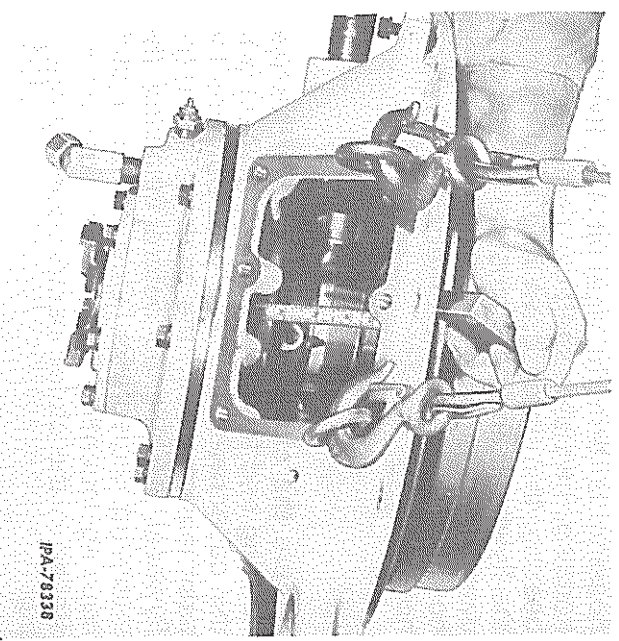

FIG. 29 – Checking the Clutch Brake Disc Clearance
26. Attach a hoist to the two upper inspection cover mounting holes in the clutch housing and lift the assembly from the bench (Fig. 29).
27. Engage the clutch. Working through the inspection cover opening, thread the clutch brake disc on the bearing carrier until a 31.8mm (1-1/4 inch) clearance is obtained between the finished surface of the clutch brake disc and externally tangd clutch brake plate (Fig. 29). Thread the lockscREW
8. Engage the clutch. Check the clearance between the finished surface of the clutch brake disc and the externally tapered clutch brake plate (Fig. 29). This clearance should be approximately 31.8mm (1-1/4 in.). Adjustment can be made, if necessary, by loosening the jam nut (18, Fig. 14) and removing the lockcrew (17), from the brake disc. Then, turn the brake disc clockwise (to increase the clearance) or counterclockwise (to decrease the clearance). Secure the brake disc to the bearing carrier with the lockcrew and jam nut.
NOTE: If the clutch brake does not stop the universal joint at either high idle or low idle engine speeds, the clutch brake adjustment should be checked (Fig. 29) and the gearshifter lock system checked once again. The clutch brake action must be satisfactory at both high and low engine speeds.